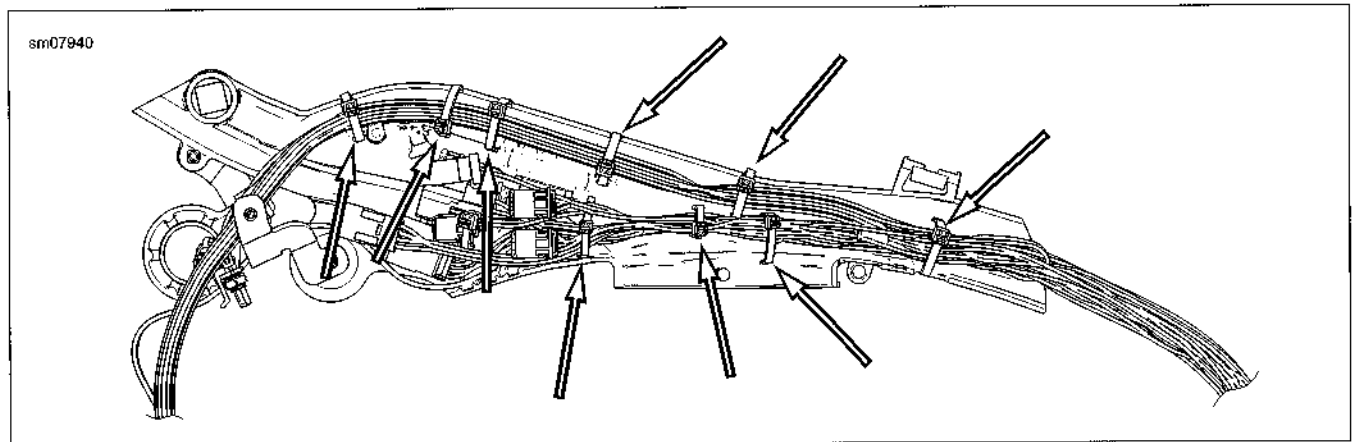

Figure 6-94. Large Backbone Electrical Caddy Cable Straps
1. See Figure 6-94. Remove all cable straps securing wiring harness bundles to large backbone electrical caddy.